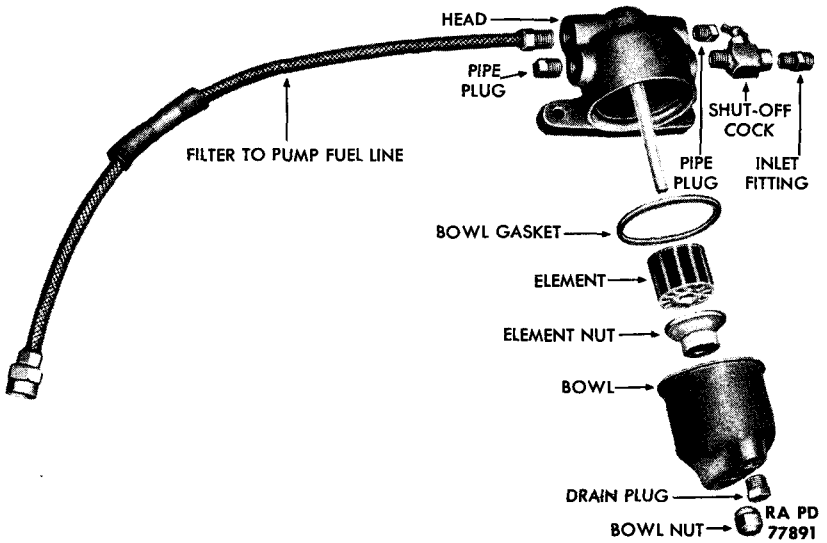
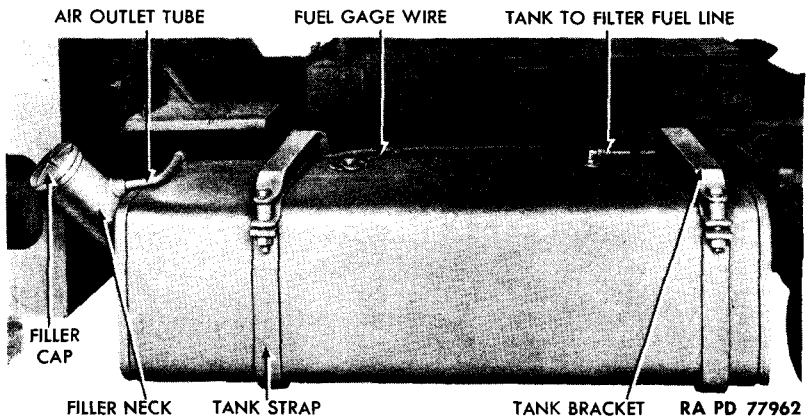

Figure 32 — Fuel Filter Disassembled
Figure 34 – Removing Fuel Tank Shield
(1) **DESCRIPTION (figs. 32 and 33).** The fuel filter is mounted on the outside of main frame left side rail, and can be reached through an opening immediately above the left-hand lower step. Gasoline flows from the fuel tank to fuel pump through the filter,
b. Maintenance (fig. 32). Service fuel filter when lubricating chassis. Remove bowl nut from bottom center of bowl. Lower bowl and bowl gasket from filter head. Unscrew element nut and lower element from stud. Wash all parts in dry-cleaning solvent, and dry with compressed air. Inspect element and gasket, and replace broken, bent, or torn parts. Place element in position on stud, and install element nut. Position gasket on top of bowl, position bowl on under side of filter head, and install bowl nut. Loosen one of the two pipe plugs on side of filter head and start engine. Tighten pipe plug when fuel drips from it.
(1) **DESCRIPTION** (fig. 34). The 60-gallon, welded sheet metal fuel tank is located outside the chassis frame ahead of the left rear wheel. It is supported by two cast brackets bolted to the frame side rail and extending out over the tank. It is secured to the brackets by two steel straps. The fuel outlet elbow and gage connection are on top of the tank, protected by a wood shield bolted to the brackets. A drain plug is located on the under side of the tank. A filler
b. Maintenance (fig. 34).
(1) Twist tank filler sleeve, and pull from filler neck at time of chassis lubrication. Clean sleeve with dry-cleaning solvent, and dry with compressed air. Install sleeve in filler neck, and check tightness of all strap and mounting bolts.
(2) During cold weather especially, always keep tank nearly full to reduce condensation. Whenever water appears in fuel filter or in fuel pump sediment bowl, remove drain plug from fuel tank. Catch gasoline in clean containers, and strain through a chamois skin or other filter which will remove water. Install drain plug, and refill tank.
(3) Remove gravel, stones, rust, scale, or other foreign matter from tank. **NOTE:** *Foreign matter in tank is indicated by clogged tank to filter fuel line, rapid fouling of fuel filter, plugging of drain, or by noise in fuel tank.* Remove tank (subpar. c, below). Twist tank filler sleeve, and pull from filler neck. Empty foreign matter from tank through filler neck, rinse tank with dry-cleaning solvent, and inspect for leaks or other damage. Replace tank if damaged. Install tank (subpar. d, below).
4- TO 5-TON 4 x 4 TRACTOR TRUCK (AUTOCAR MODEL U-7144T)**c. Removal (fig. 34).**
d. Installation (fig. 34).
a. **Description.** Gasoline is conducted from fuel tank to carburetor through three fuel lines. Tank to filter fuel line (fig. 34) and pump to carburetor fuel line is flexible woven metal (fig. 32). Brass sleeve coupling nuts are used throughout.
c. **Removal** (figs. 34, 29, and 32). Completely unscrew sleeve coupling nut from each end of tubing. Remove clips along tubing (step (2) above). Work tubing from vehicle.
d. **Installation** (figs. 34, 29, and 32). Place tubing in position occupied by original installation. Connect sleeve coupling nut at each end of tubing. Install clips (step (2) above) along length of tubing.